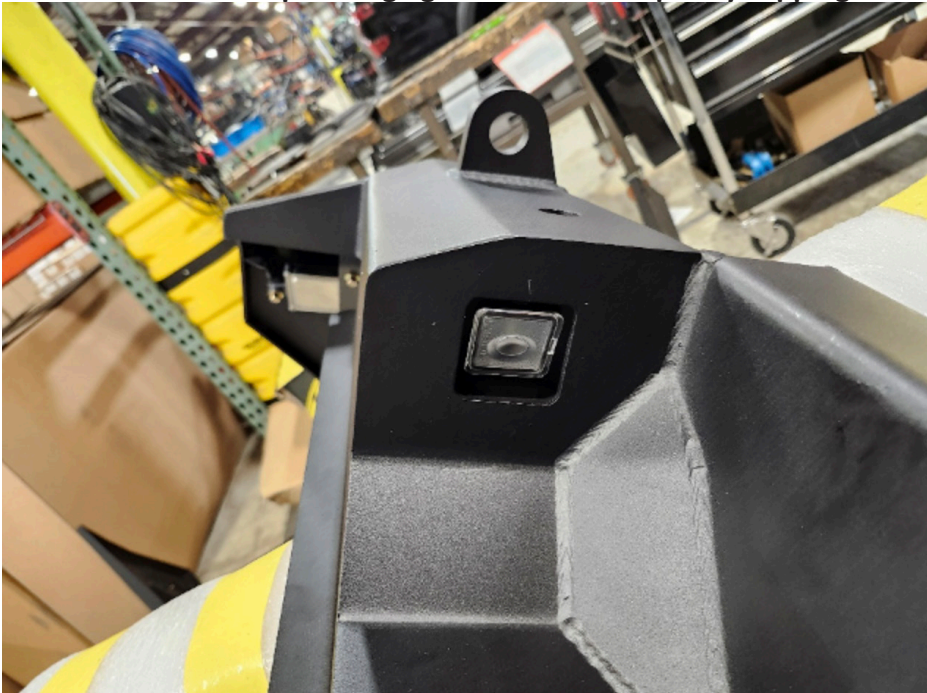

Figure 14
15. Install license plate tag light into new bumper by clipping into bracket. (Figure 14)